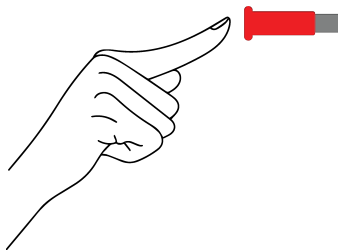

Fig 1. Press the red switch to reset
- To reset, simply press the red button (**Fig 1**) at the rear of the cold plate (**Fig 2**). If the Compressor does not start after pressing the red button, wait 30 minutes to allow the pressure in the system to drop to a safe level. Then try again. The pressure in the system needs to drop to 1800kpa before it will reset.